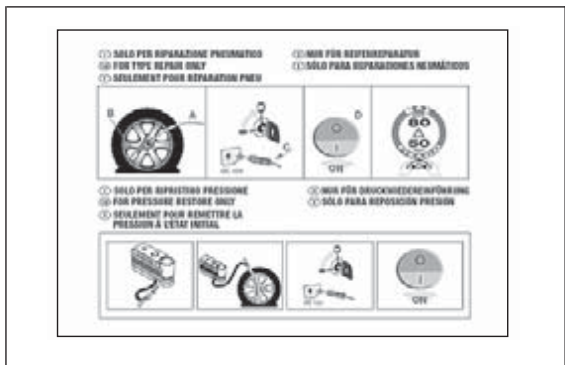

fig. 109
- ☐ instruction brochure (see fig. 109), to be used for prompt and correct use of the tyre quick repair kit and then to be handed to the personnel charged with handling the treated tyre;